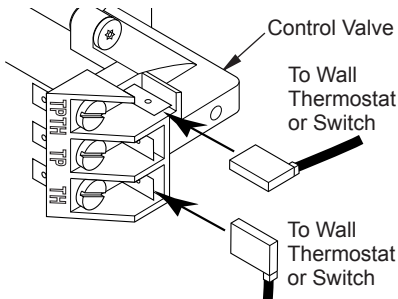

Figure 32 - Connecting Wire Terminals
2. Connect one terminal of 25 ft. wire to the “TH” terminal on the control valve. Connect the other terminal to the “THTP” terminal on the control valve. See Figure 32, page 20.
2. Connect one terminal of 25 ft. wire to the “TH” terminal on the control valve. Connect the other terminal to the “THTP” terminal on the control valve. See Figure 32.